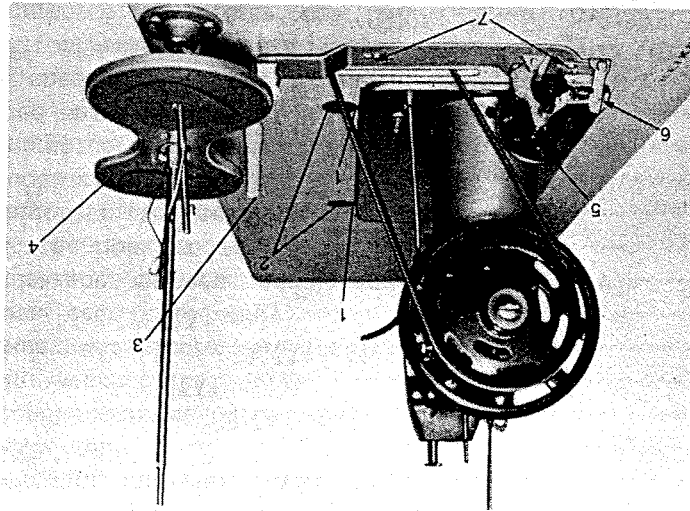
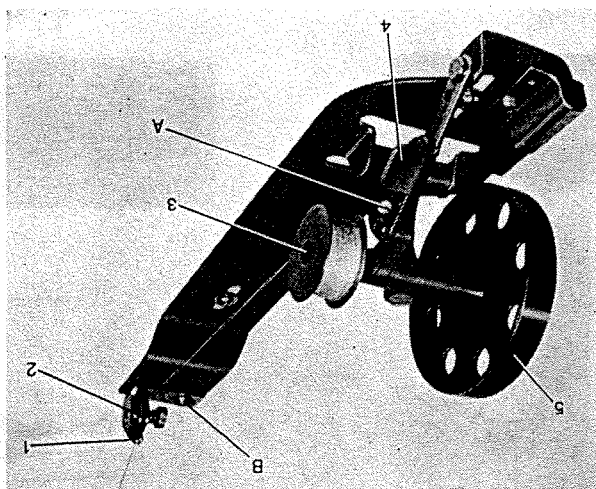

Fig. 2 To install the machine on the table
Fig. 15
## WINDING BOBBINS (Figs. 2 and 15)
The bobbin winder is mounted on the table top with its pulley (5, Fig. 2) in front of the driving belt so that the pulley will separate from the belt after the bobbin has been wound with sufficient thread, push the bobbin on the bobbin spindle (3 Fig. 15) as far as it will go.
Pass the thread from the thread stand downward through the eye (1, Fig. 15) in the tension bracket.
Then, between and around the back of the tension discs (2 Fig. 15) bring the thread forward toward the bobbin and wind from below in clockwise direction several times around the bobbin. Push bobbin winder lever (4, Fig. 15) downward until the wheel (5) contacts the drive belt and start the machine.
The adjusting screw (A, Fig. 15) can be turned in or out to increase or decrease the amount of the thread wound on the bobbin.
If the thread does not wind evenly on bobbins, loosen the screw (B, Fig. 15) and move the bracket to the right or left as may be required and tighten the screw.